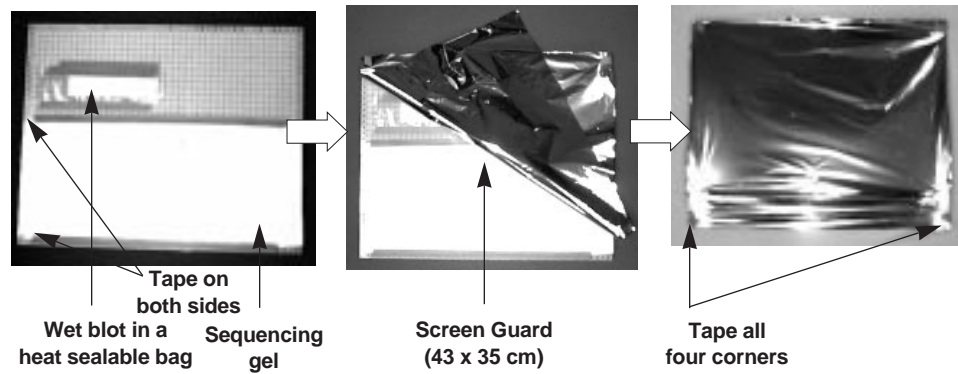

Fig. 4.3. Preparing radioactive samples for exposure to a large format Imaging Screen.
Dry, thin samples such as nitrocellulose membranes, dried gels or plastic TLC sheets can be exposed directly to the Imaging Screens using the Loading Dock. A sheet of Screen-Guard should be placed between the sample and the screen to eliminate any chances of radioactive contamination (Figure 4.3).
Precautions must be taken to prevent wet samples from contaminating the Imaging Screen. Wet, thin samples must be completely enclosed in a heat-sealable bag, and moist samples must be covered with plastic wrap before being exposed to the Imaging Screen using the Exposure Pad. A sheet of Screen-Guard should always be placed between the sample and the screen to minimize screen contamination due to leakage (Fig. 4.3). Plastic wraps will attenuate weak beta radiation signals according to the following table:
3. Place the sample on the exposure pad and tape securely in place (Figure 4.3). Samples with sharp edges should be taped on all sides to prevent accidental scratching of the phosphor screen. If a sample is thick, has curled edges or bunches of plastic wrap lifting the edges, be sure to tape the edges securely. Try to eliminate surface wrinkles or unevenness that may interfere with the contact between the screen and the sample. Poor contact between the screen and the sample will degrade image resolution.
4. Overlay the sample with a sheet of Screen-Guard for radioactive samples (Figure 4.3). For chemiluminescent samples, use an 8.5 x 11 inch overhead transparency sheet. Tape all four corners to hold the sheet onto the exposure pad.